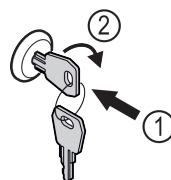

Fig. 164
- Insert the key. Fig. 164 (1)
- Turn the key clockwise by 90°. Fig. 164 (2)